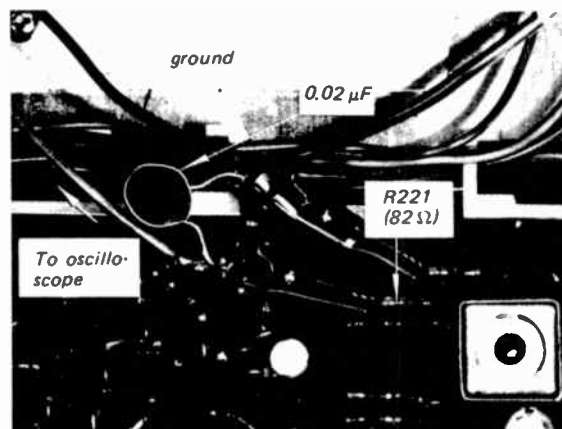

Fig. 3-3. Fm discriminator output connection
2. Connect the input cable of the oscilloscope with alligator clips to R221 and ground on the fm a-m tuner circuit board, and solder a  $0.02\mu\text{F}$  capacitor across these clips, as shown in Fig. 3-3.